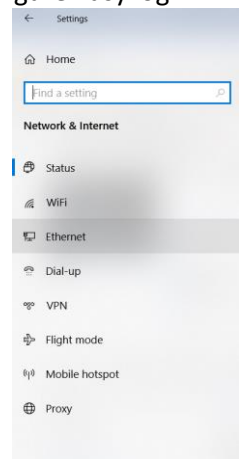

Fig.3
4. Select Ethernet (Fig.3) and the menu of Fig.4 will open